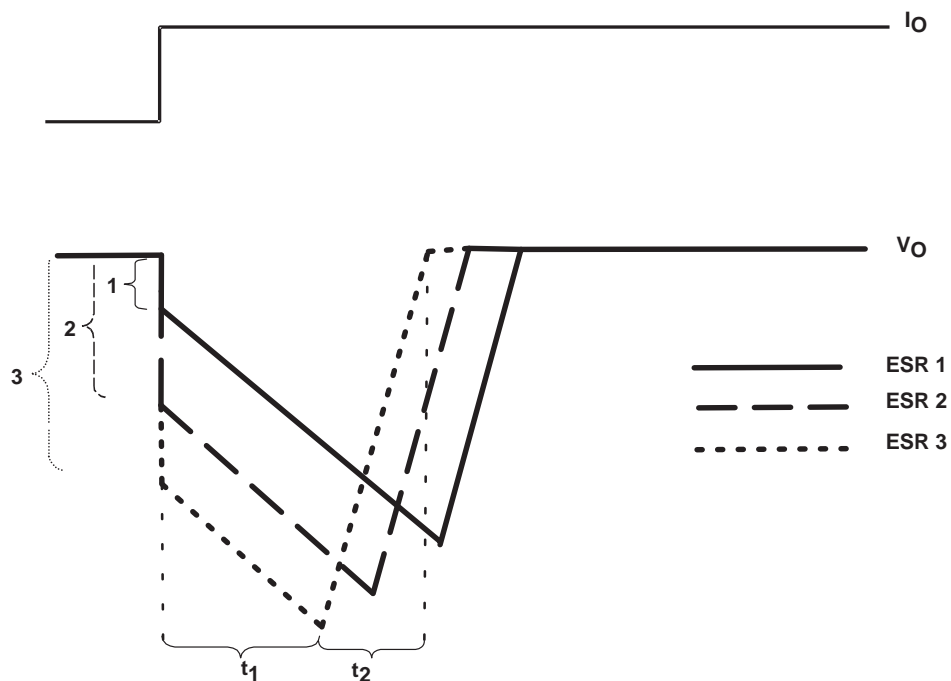

Figure 22. Correlation of Different ESRs and Their Influence to the Regulation of  $V_O$  at a Load Step From Low-to-High Output Current
Besides its capacitance, every capacitor also contains parasitic impedances. These parasitic impedances are resistive as well as inductive. The resistive impedance is called equivalent series resistance (ESR), and the inductive impedance is called equivalent series inductance (ESL). The equivalent schematic diagram of any capacitor can therefore be drawn as shown in Figure 22.
- The LDO is not able to supply the sudden current need due to its response time ( $t_1$  in Figure 22). Therefore, capacitor  $C_O$  provides the current for the new load condition (dashed arrow).  $C_O$  now acts like a battery with an internal resistance, ESR. Depending on the current demand at the output, a voltage drop will occur at  $R_{ESR}$ . This voltage is shown as  $V_{ESR}$  in Figure 21.
- When  $C_O$  is conducting current to the load, initial voltage at the load will be  $V_O = V(C_O) - V_{ESR}$ . Due to the discharge of  $C_O$ , the output voltage  $V_O$  will drop continuously until the response time  $t_1$  of the LDO is reached and the LDO will resume supplying the load. From this point, the output voltage starts rising again until it reaches the regulated voltage. This period is shown as  $t_2$  in Figure 22.